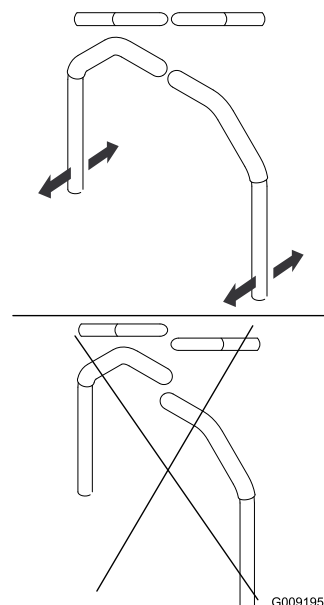

Figure 58
4. Align the levers in the front-to-rear position by bringing the levers together to the NEUTRAL position, and slide them until they are aligned, then tighten the bolts (Figure 58).